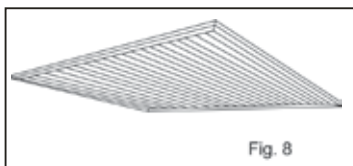

Fig. 8
- If installing over an existing enclosed porch ceiling and the existing material is solid and able to hold the new material, it is not necessary to install additional wood strips however, if the ceiling is not solid or the existing material cannot support the new material, 1"X3" (25.4mm X 76.2mm) wood strips have to be installed around the perimeter and at 12" (305mm) intervals. (Figure 8)